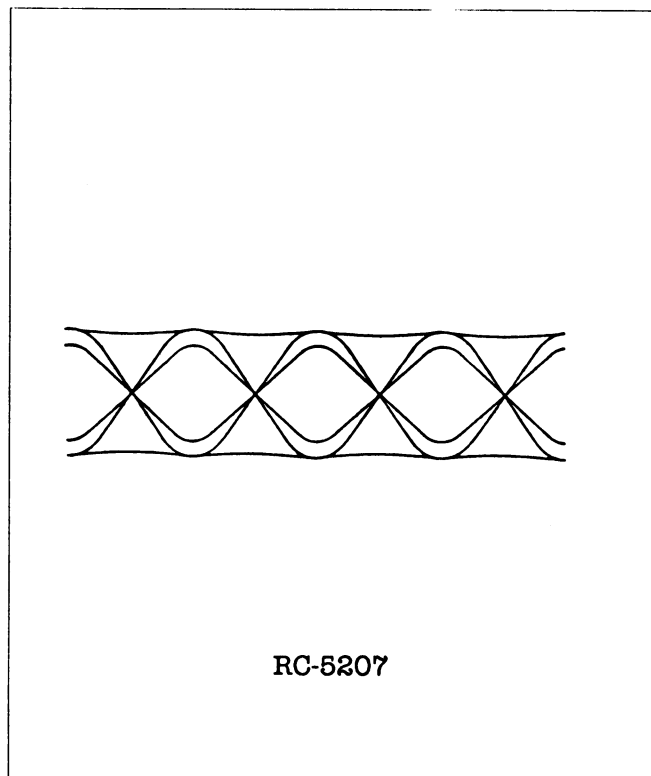

FIGURE 1 - "EYE" PATTERN AT VOL/SQ HI
4. Connect an oscilloscope to VOL/SQ HI (IFAS Board terminal 11 in the receiver), and adjust the scope display to show an eye pattern as shown in the Figure 1.